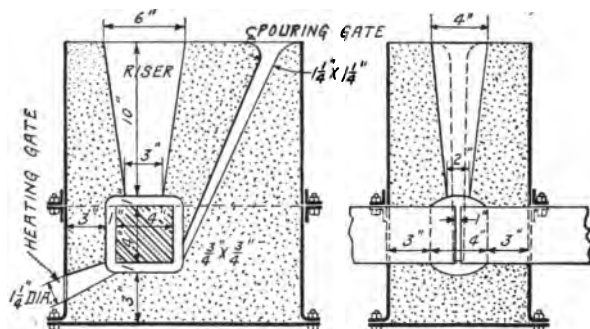

Fig. 36. Section of Typical Thermit Mold Showing Riser, Pouring Gate, and Heating Gate
**Construction of Mold.** The construction of the mold is really the most important part of the operation, because upon this depends the amount and application of the filling material. The container or flask is usually made of steel plates placed so as to form a box around the part to be welded, and then filled with the clay, etc., of the mold, the plates being fastened with bolts, tie-rods, clips, or clamps of whatever sort may be available, Fig. 36. The first step in the formation of the mold is to build a collar of the yellow bees-wax around the place to be welded, making this of the size and shape desired for the weld. After the collar is formed, the flask is placed around it and filled with a mixture of ground fire brick, fire clay, and fire sand in equal parts. There must be three channels in every mold, a pouring gate, a riser, and a heating gate. The pouring gate should run from the top of the mold down to the bottom of the wax collar to insure the metal filling the mold and to allow the good steel to reach the weld instead of being crowded out by the slag. The riser should be immediately above the wax collar, if possible, so that the slag and surplus metal can rise freely from the metal of the weld, and the heating gate should run from one side of the mold into the bottom of the collar in order that the wax can all run out of the mold when melted by the pre-heating torch. As soon as the mold is completed, the torch is applied and the wax melted out. The flame is allowed to play into the mold until it is entirely dry and then the heating gate must be plugged with clay to stop it up entirely. Fig. 37 shows a typical thermit weld, with pouring gate and riser still attached.